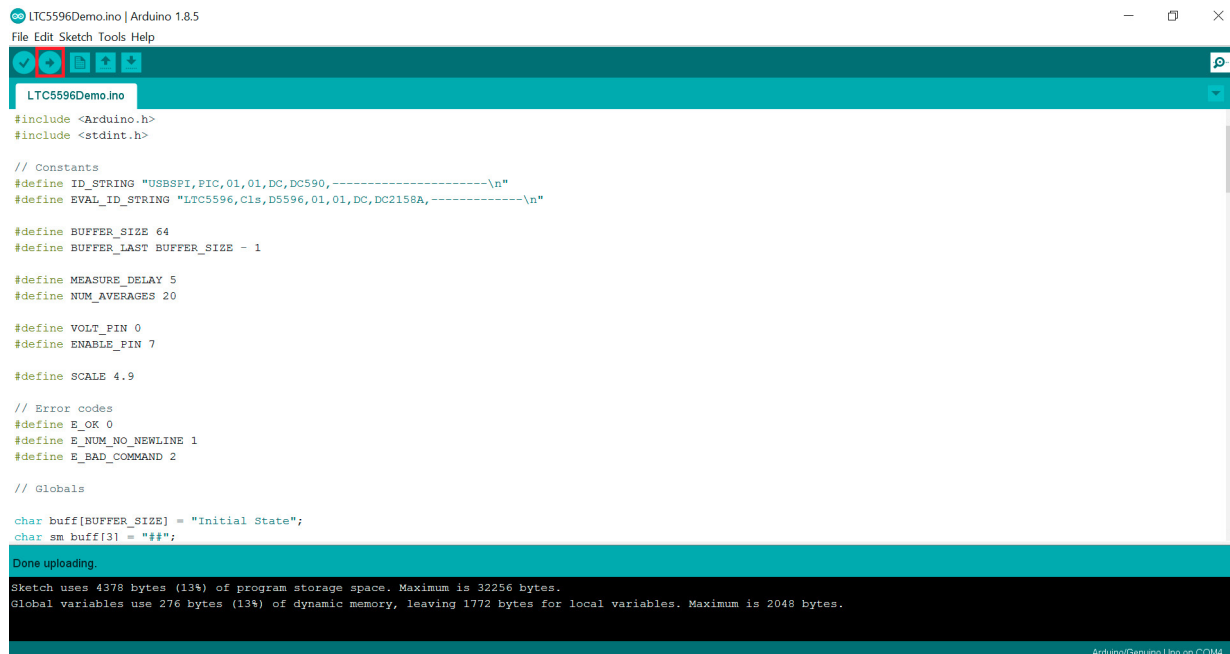

Figure 2. Firmware Re-Load (Only If Necessary)
4. The Eval Kit comes with a Linduino board pre-loaded with firmware. Follow Figure 2 to re-load the firmware if necessary, which can be downloaded from www.analog.com.